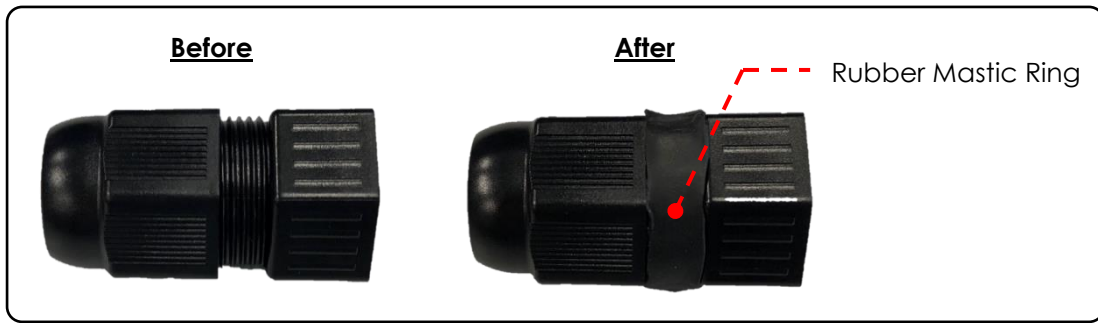

Figure 10-5 Rubber Mastic Ring around Cable Gland Body
6. Wrap the strip around the cable gland body in the clockwise direction as shown in Figure 10-5. Take extra care to make sure that the rubber ring would not hinder the subsequent tightening of the cap nut. This is to fill out the space between the cap nut and the cable gland body after tightening.